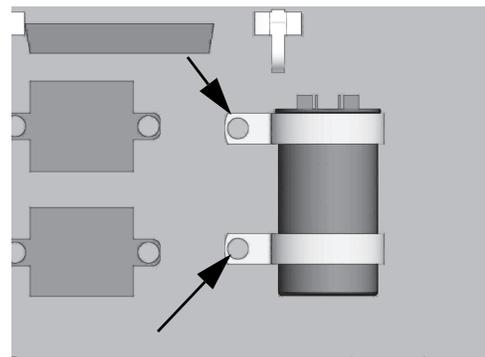

Figure 62.
8. Disconnect the wires connected to motor capacitor and remove the two screws as shown in Figure 62..